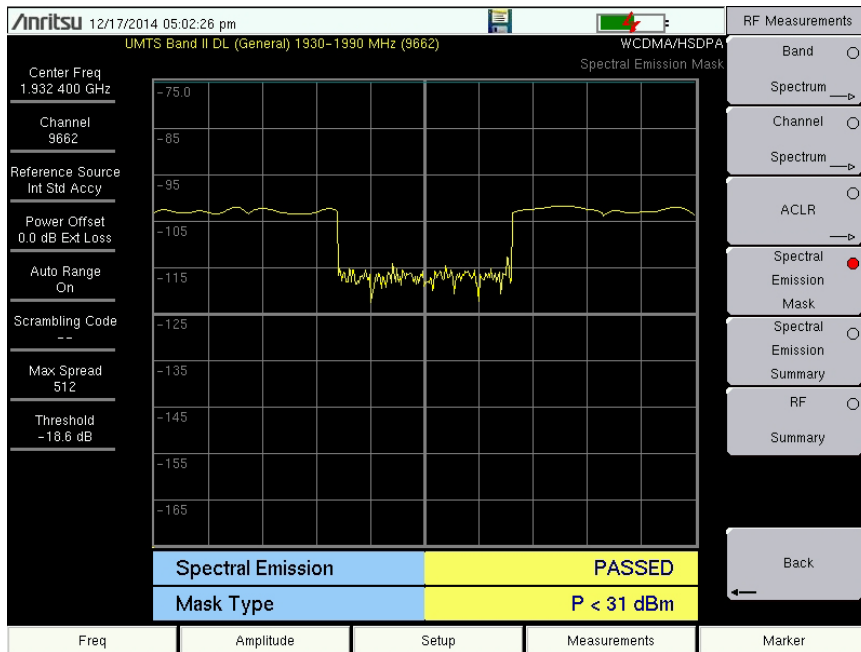

Figure 3-5. Spectral Emission Mask Measurement
4. Press the Spectral Emission Mask submenu key to activate the Spectral Emission Mask measurement (Figure 3-5).